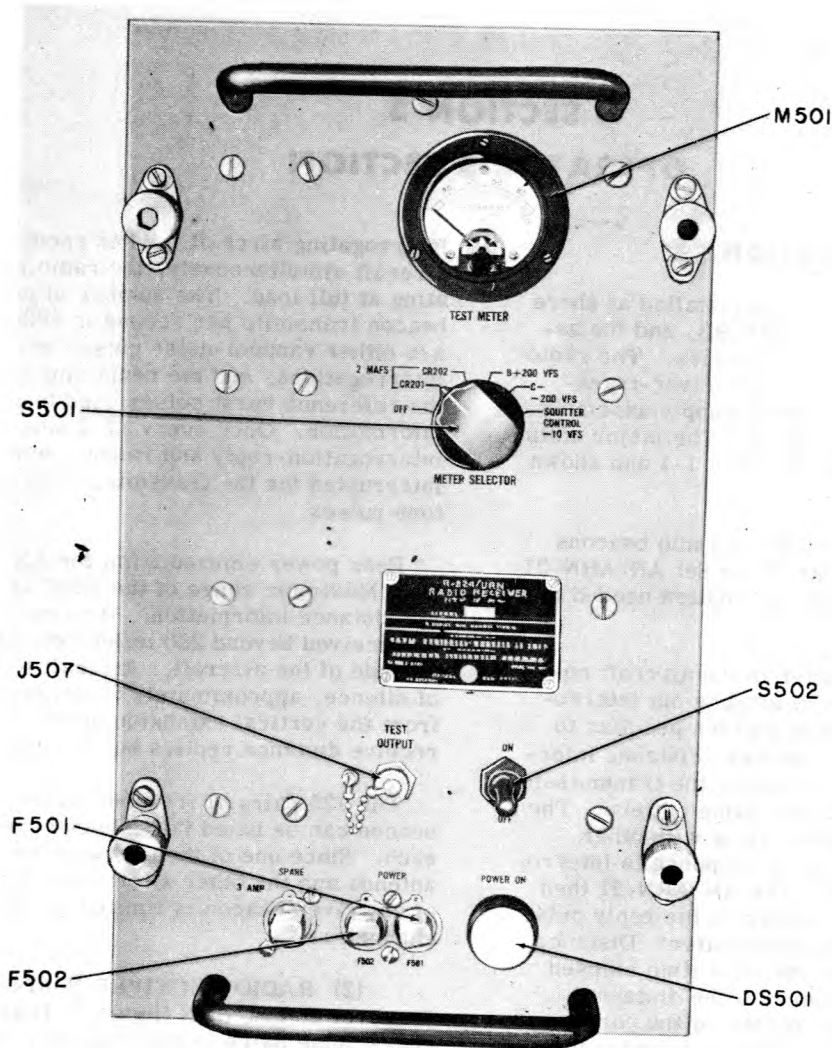

Figure 3-1. Radio Receiver R-824/URN, Front Panel View
(2) RADIO RECEIVER R-824/URN. — Radio Receiver R-824/URN (figure 3-1) receives and decodes pulse pairs in the frequency range of 1025 to 1087 mc when the low-band antenna is used, and 1088 to 1150 mc when the high-band antenna is used.
(a) Radio Receiver R-824/URN (figure 3-1).
RADIO RECEIVER R-824/URN (figure 3-1)